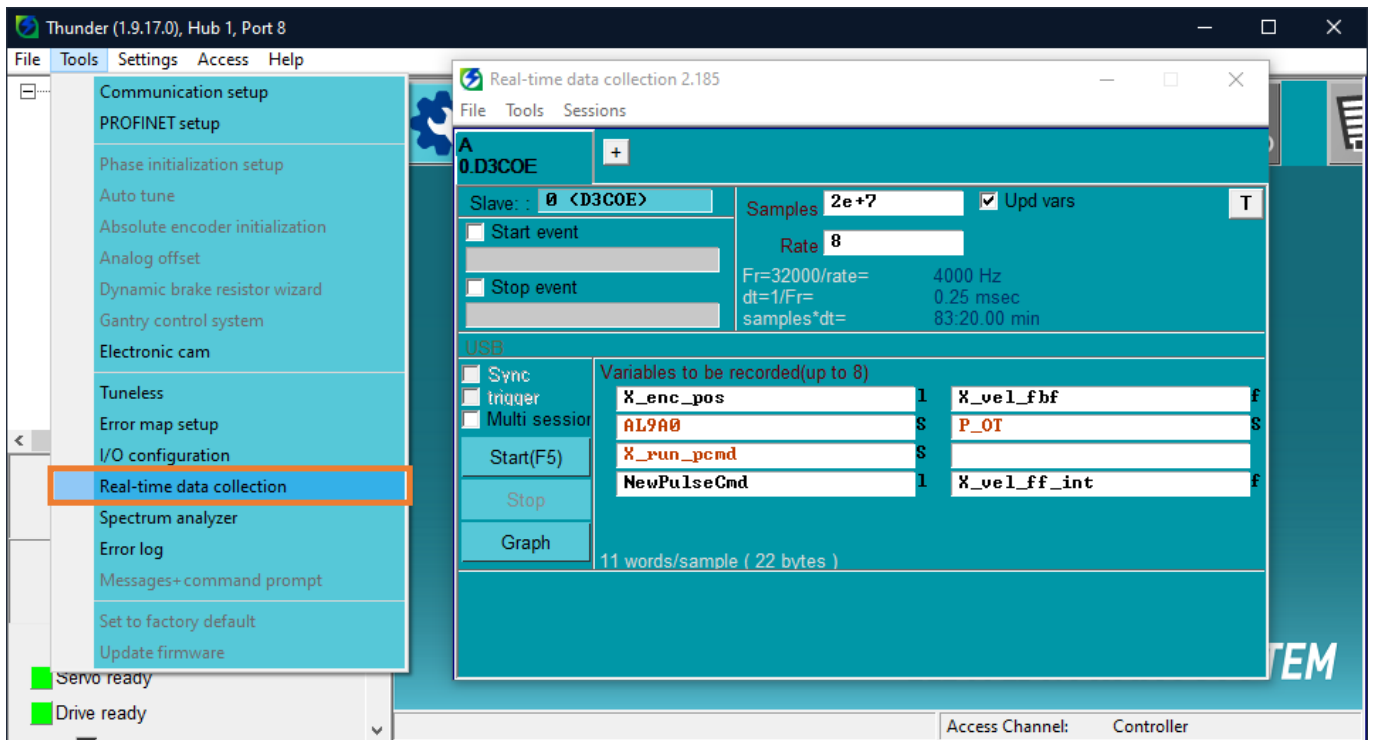
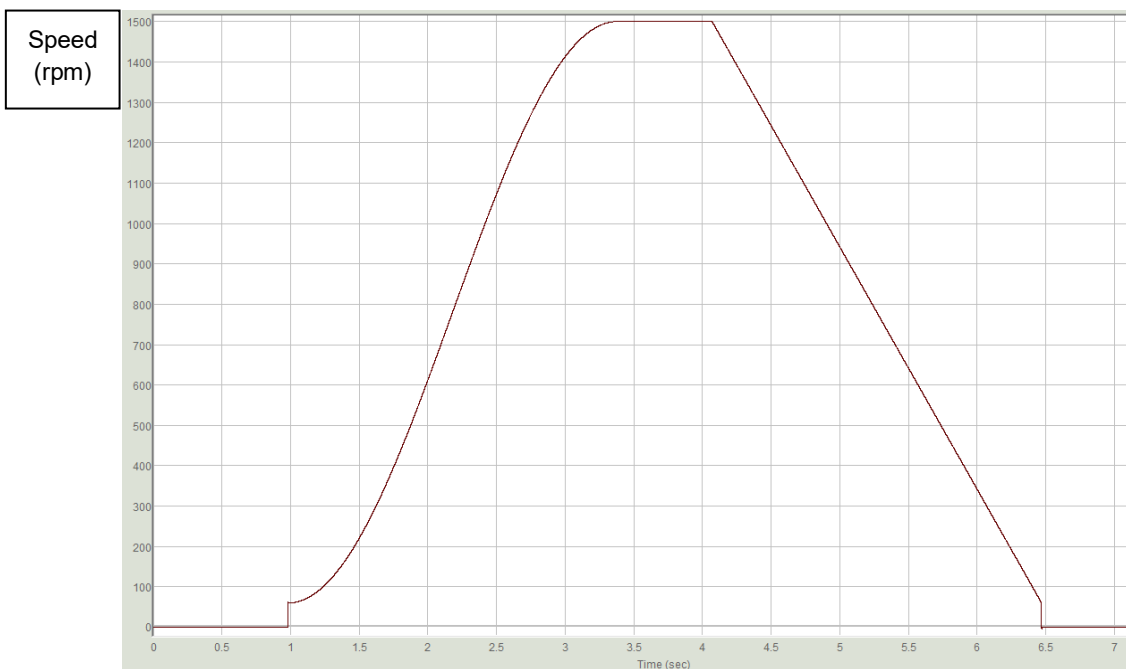

Figure 3.3.2
Figure 3.3.4
- Open Thunder→ **Real-time data collection**, click **Stop** and then click **Graph** (refer to Figure 3.3.2) to generate Figure 3.3.4.